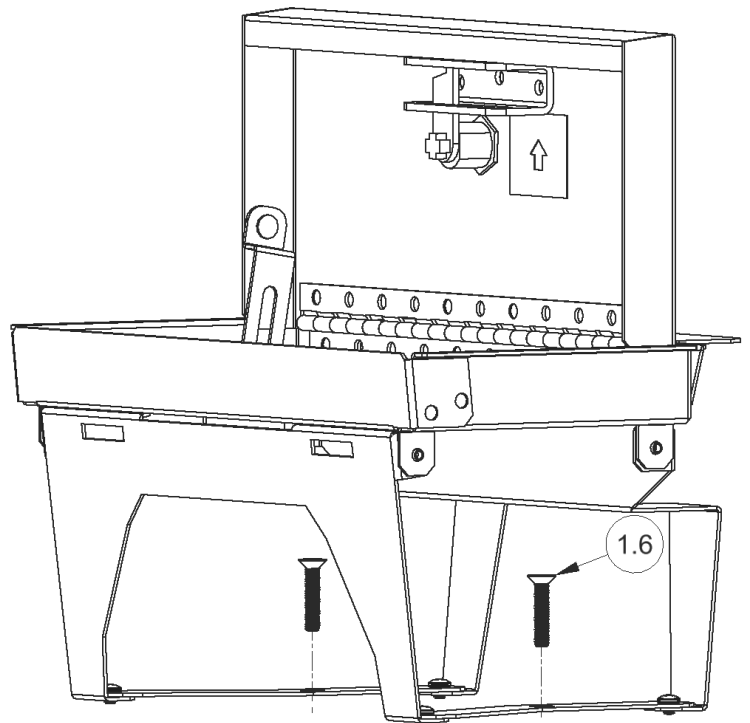

FIGURE 6
10. Insert the #1.6 Screws through the bottom plates into the base of the console. **See Figure 6**